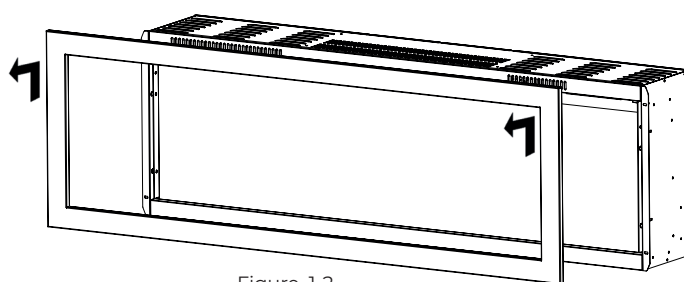

Figure. 1-2
- ② Carefully lift the front trim up and away from the appliance (Fig. 1-2). Place it face down on a soft, non-abrasive surface or carefully back in the fireplace box